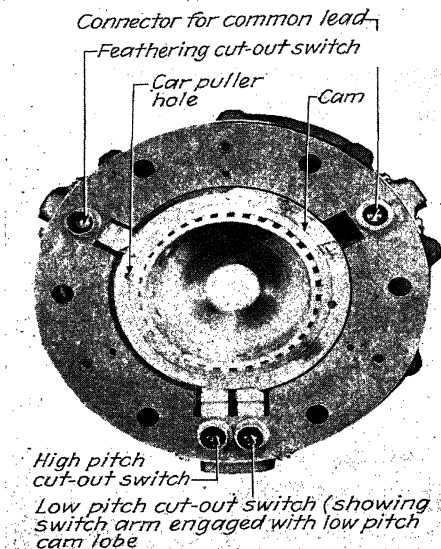

FIG. 50.—High- and low-limit cutout switches.
The limit cutout switches are located at the hub end of the speed reducer. They limit the high and low pitch for the flight range and also stop the pitch change at the feather position. The high- and low-pitch cutout switches are effective while operating on both constant speed and manual selective control (Fig. 50). The feather cutout switch is effective only during the feather
Check the alignment of index marks on the power gear and on the steel adapter plate. To align these marks it will be necessary (1) to remove the steel mechanical low-stop plug, which is held in place by two ¾-in. hexhead bolts just forward of the steel adapter plate. This *must* be done to eliminate the possibility of damaging the speed reducer when attempting to align the two index marks. (2) *After* the mechanical low-stop plug has been removed, the power gear may be rotated by introducing a 12-volt current into the pitch-change motor through the proper two contacts on the face of the adapter plate (Fig. 50).
1. Remove the power gear and adapter plate from the power unit and see that the low limit cutout switch is just riding on the low limit cam lobe (Fig. 50). If it is necessary to run the power unit to locate the cam properly, proceed as previously outlined. Then replace the power gear, having the master spline in line with the mark indicating the desired low-pitch angle.